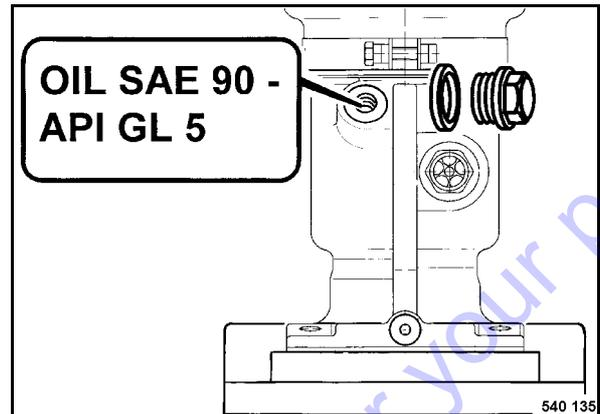

Fig. 58
- Clean the filler plug (Fig. 58) and unscrew it.